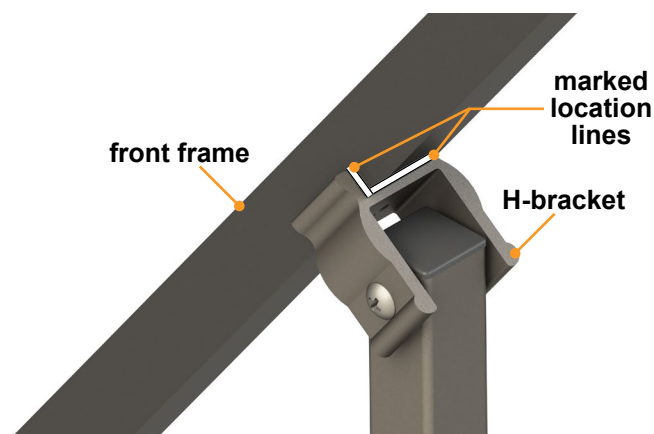

Fig.14
B. Using a non-permanent marker, mark the location of the H-bracket on the front frame (Fig.14).